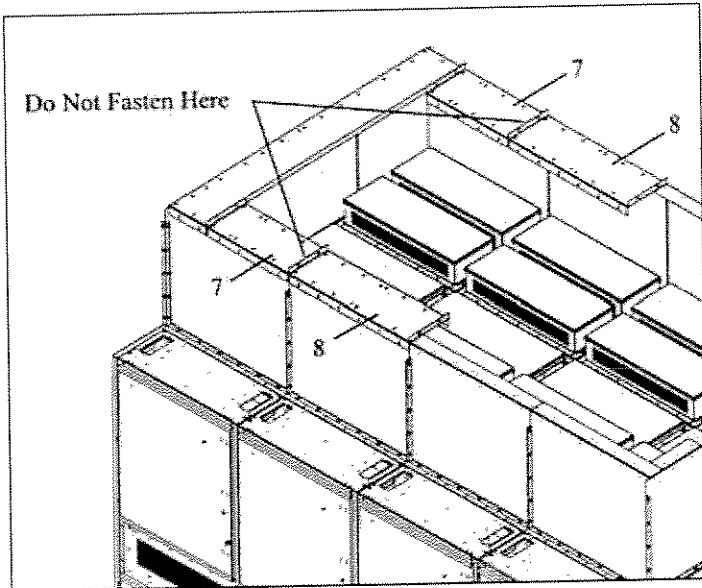

Figure 17. Middle Roof Extension Panel Installation - Beginning.
5. At the front of the switchgear, place a middle roof extension panel (8) down on top of the arc exhaust wall and up against the roof panels (7) previously assembled (see Figure 17).
First, insert the 0.25" self-tapping screws along the vertical flange of (8) and then along the top edge of the panel. Do not fasten the protruding flanges of (8) to (7) at this time. These flanges are needed in a later step of the assembly. Repeat this step at the rear of the switchgear as shown in Figure 17.